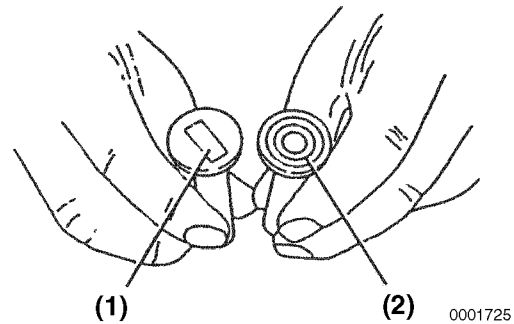

Figure 6-117
1. Inspect the tappet contact surfaces for abnormal wear (**Figure 6-117, (1)**). Normal wear will be even as shown in (**Figure 6-117, (2)**). Slight surface defects can be corrected using an oilstone.